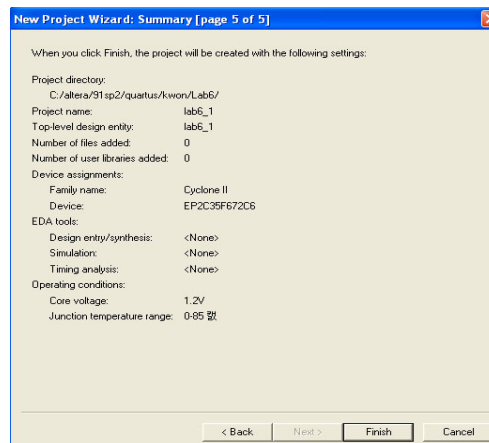

Figure 6-6
8. Page 5 of 5 of the New Project Wizard (Figure 6-6) displays a summary of your selections. Review the choices and either click **Back** to correct an entry or click **Finish** to create the project. The top-level design entity name appears in the **Hierarchy** tab of the Project Navigator window and the title of the project will be displayed in the **Title** bar of the Quartus II window.